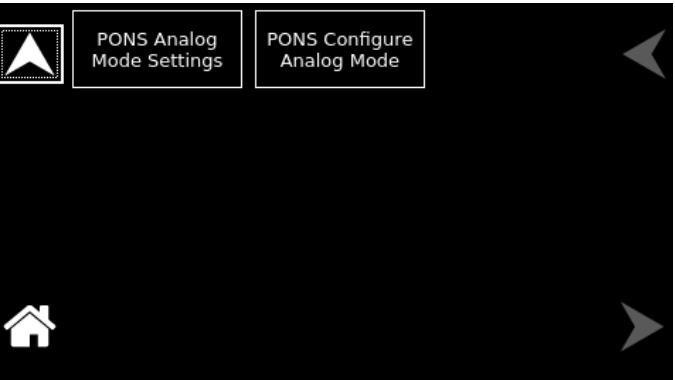

Figure 9-153. PONS Analog Screen
- Configures the PONS Analog programming interface, refer to Figure 9-153.